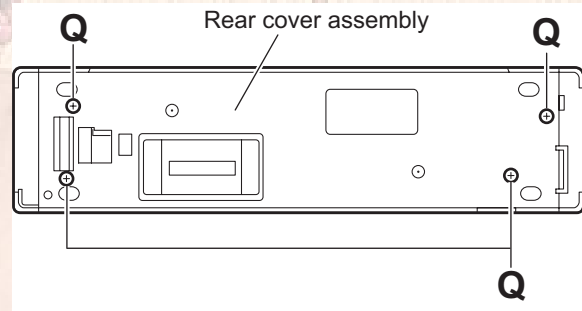

Fig.15
3.1.10 Removing the switch board (See Figs.15 to 17)
- (1) From the rear side of the front panel assembly, remove the four screws **Q** attaching the rear cover assembly to the front panel assembly. (See Fig.15)